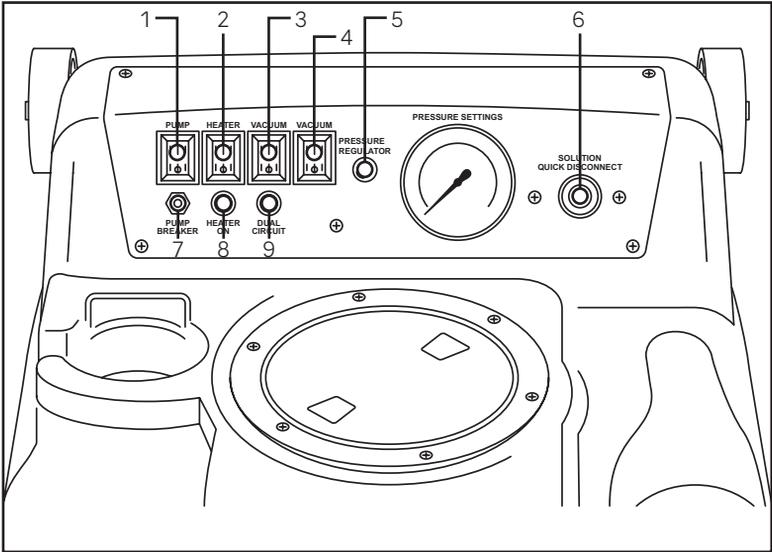

Fig. 1
3. Plug the other end of each extension cord into a separate grounded 15 amp wall socket circuit. When this is accomplished, the green indicator light (#9 Fig.1) will be lit.
5. Turn the heater switch (#2 Fig. 1) to the "ON" position. The orange indicator light (#8 Fig. 1) is on any time the heater is operating.
6. Turn the pump switch (#1 Fig. 1) to the "ON" position.
7. Turn the vacuum switch (#3 Fig. 1) to the "ON" position to begin cleaning (#4 Fig. 1) is a blank cover.
8. With the solution line attached to the wand and the machine (#6 Fig. 1), prime the pump by squeezing the trigger on the wand and releasing the water (hold wand tip over solution tank to put water back into solution tank). This will pump water into the heater and get any air out of the solution line. Let heater heat up. This will take 3 to 5 minutes.
9. Using the pressure adjustment (#5 on Fig. 1) adjust the pressure of the unit to suit your extraction task.